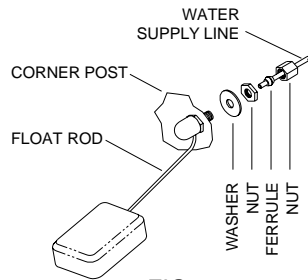

FIG. 5
- **Install float valve.** Install valve in the provided hole in corner post (Fig. 5) and attach water supply line.
- **Fill pan.** Allow water to fill to within 1" of top of pan and adjust float to maintain this water level. This can be accomplished by bending the float rod (Fig. 5).